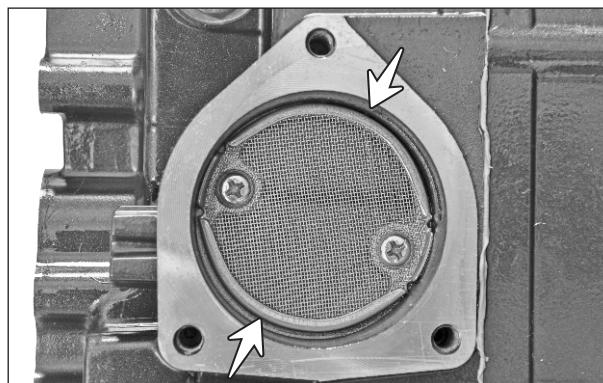

Fig. 4.17
- Oil filter is provided on the right side crankcase at the bottom, inside the cap oil strainer. (Fig. 4.17)